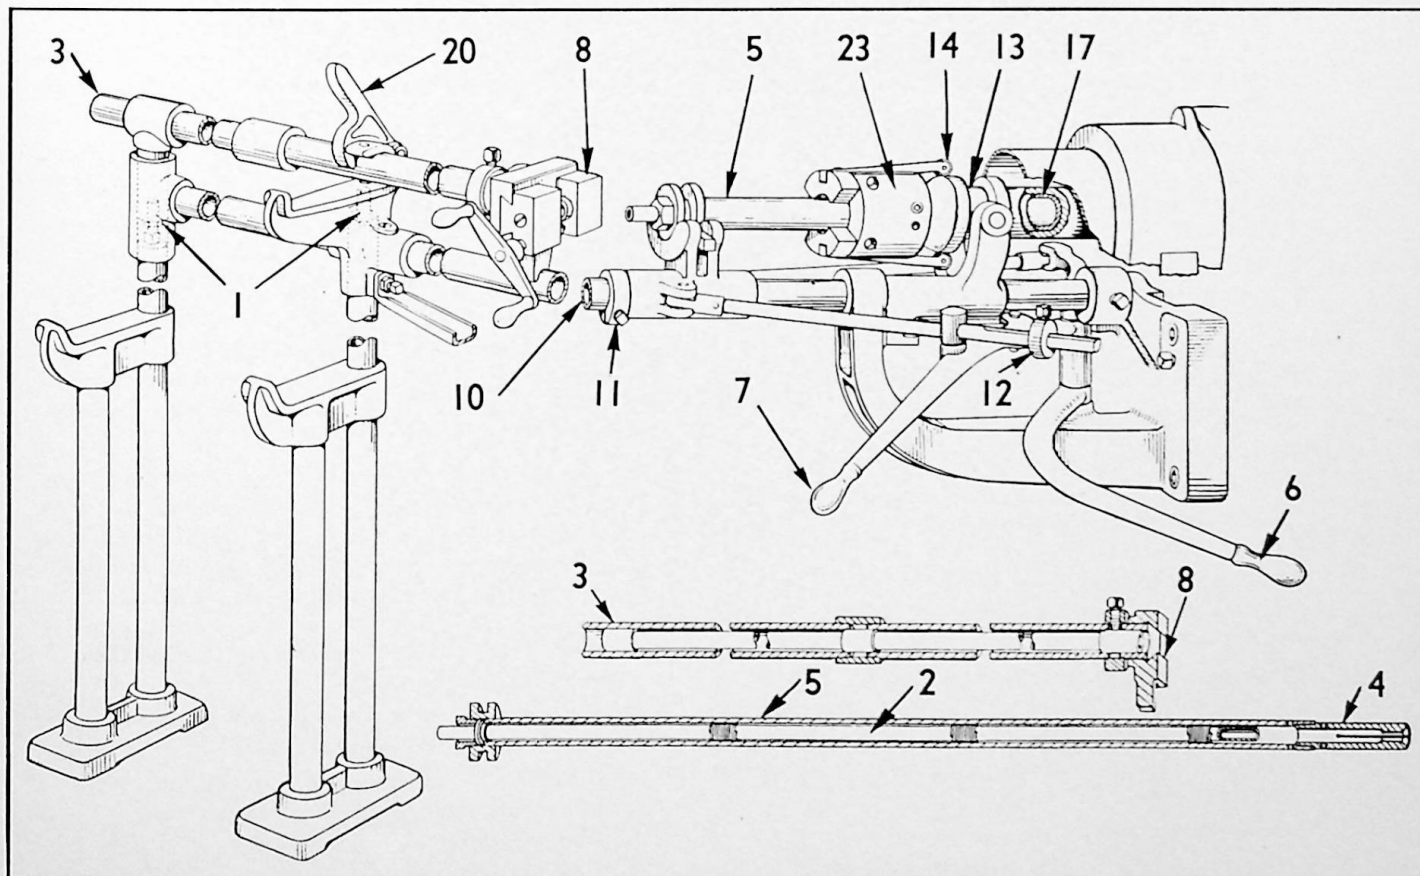

FIG. 33 Finger Bar Feed (No. 1 Electric Turret Lathe).
Hand operated collet chucks for No. 1 and No. 2 Electric and No. 2 All Geared Head Turret Lathes operate on similar principles. Roller fingers mounted in a holder (14), Fig. 33, at the back of the spindle are spread by wedge (13). This wedge may be operated by hand lever (6), or automatically by power (see Power Automatic Chucks, Page 23). These roller fingers act as powerful levers on plunger (17), to force split collet to grip the work. The finger holder is threaded to end of spindle to provide adjustment of the collet grip.
Filler tubes (2), Fig. 33 and 34, reduce inside diameter of feed tube, or pipe. They prevent whipping action of small diameter bars at high speeds and are available in three different bore sizes to cover the capacity range of each machine.
When installing a bar feed on a new machine be sure the bar support pipe (3), Fig. 33 and 34, is in line with spindle. Check this with a reliable level to compare with bed of machine.
For rough leveling, shims may be used under feet of stand pipe. For more accurate leveling, adjusting screws (1), Fig. 33 and 34, are provided. Sight through spindle to establish lateral alignment.
### No. 1 Electric Turret Lathe, Fig. 33